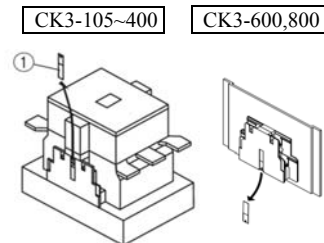

Fig.2
(1) 安装
- 请用小镊子把安装在交流接触器侧面的透明盖取下。(Fig. 2)
(1) Mounting
- Remove the transparent cover ①, which is mounted on the side of contactor, with a pair of tweezers. (Fig. 2)